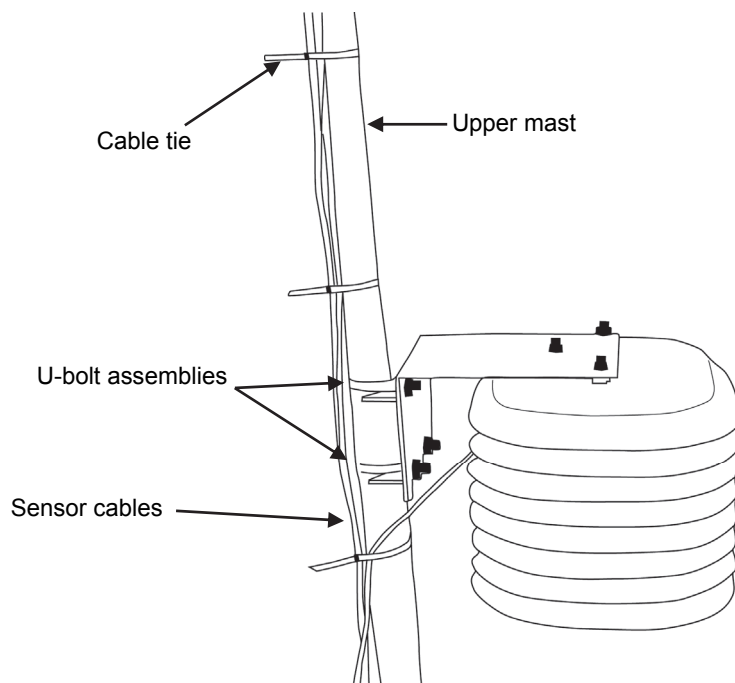

Figure 41: Securing the sensor cables on upper mast
6. Use cable ties to secure cables to the mast (see Figures 41 and 42). Also secure any cables running to remote sensors to the mast or to one of the tripod legs.